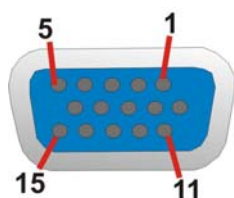

Figure 4-16: VGA Connector
- CN Pinouts:** See Figure 4-16 and Table 4-18